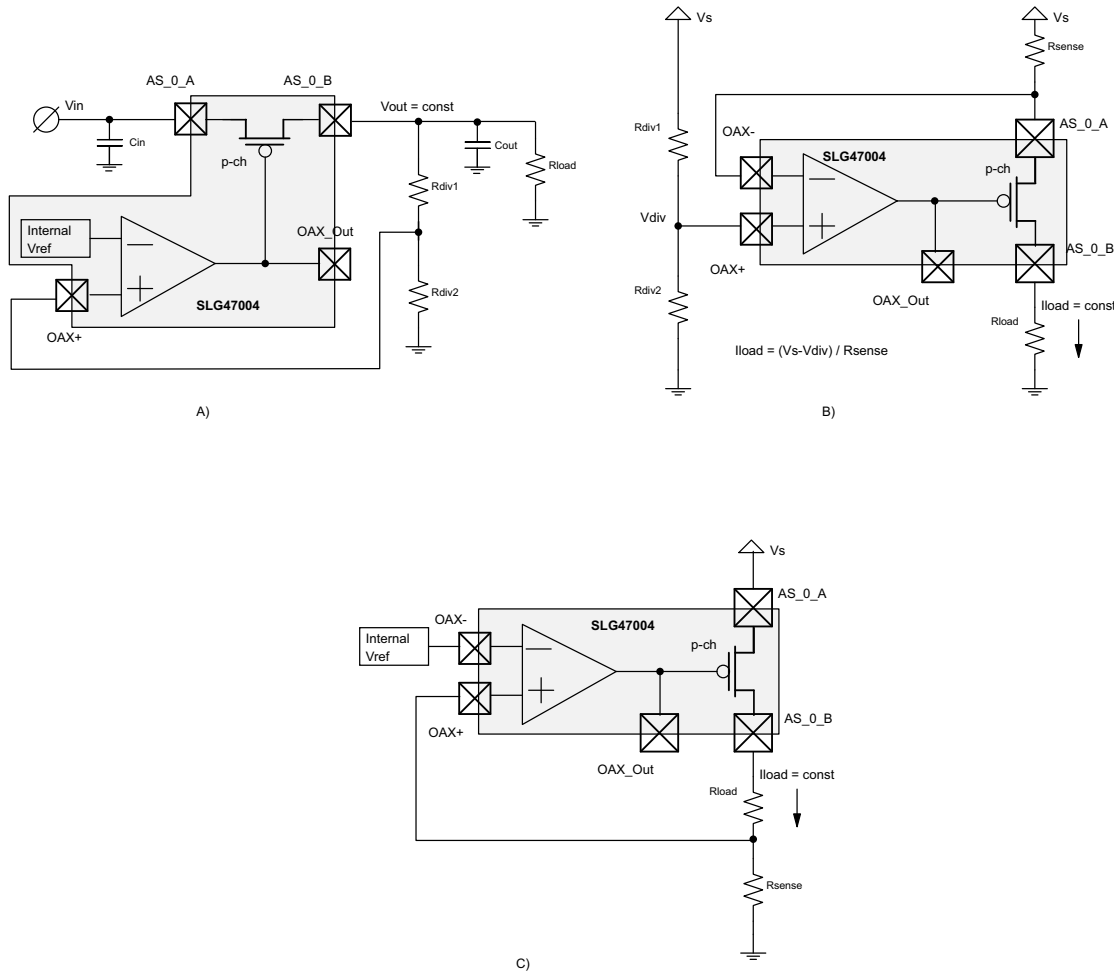

Figure 74. Typical Implementation of Voltage Regulator (A) and Current Sources (B, C)
mode the op amp output is High when the macrocell is turned off. Figure 74 (A) shows the typical implementation of the voltage source function. Optionally, the user can use this mode to implement a constant current source with load connected to ground (Figure 74, B, C). Note that op amp must operate in operational amplifier mode (register 750 = 0 for Op Amp0, register 751 = 0 for Op Amp1).